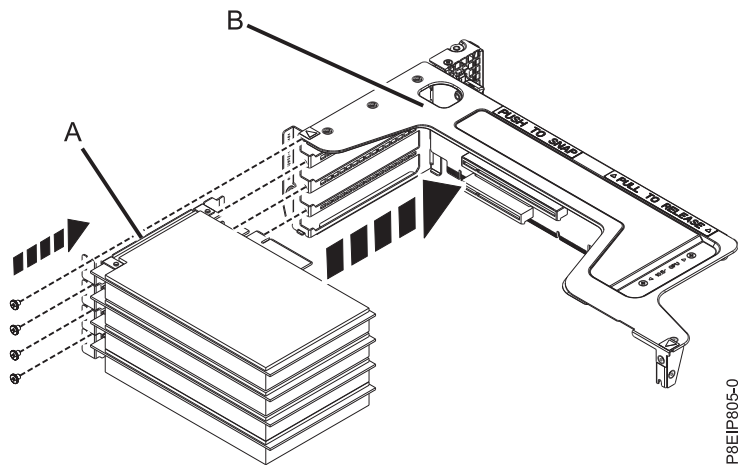

Figure 55. Inserting a PCIe adapter into the riser
- g. Plug the adapter (**A**) into the proper slot in the PCIe adapter riser (**B**) as shown in Figure 55 on page 86.